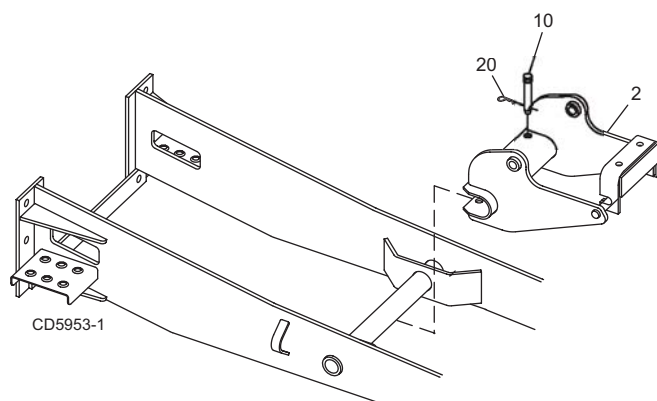

Figure 10 Clevis Pins Installed
3. Install clevis pins (10) and hair pins (20) to secure in rear mounting bracket as shown in Figure 10.